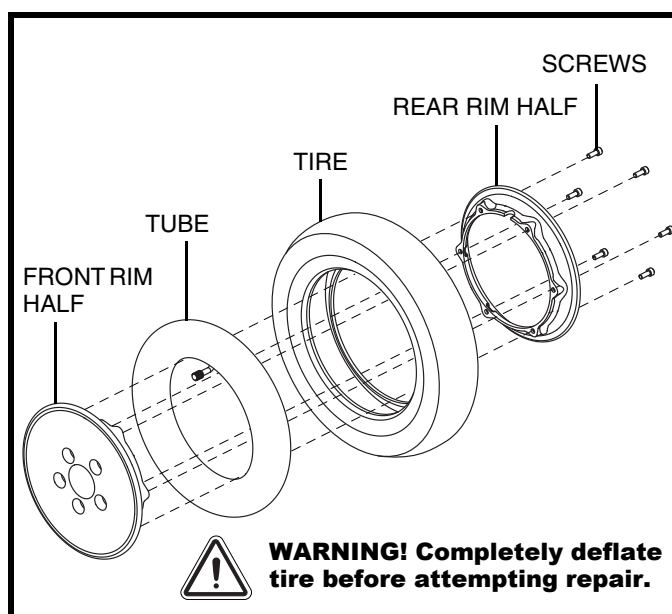

Figure 30. Drive Wheel Assembly
6. Remove the screws and separate the rim halves. See figure 30.
7. Remove the old tube from the pneumatic tire and replace it with a new tube or replace the entire assembly if it is a solid tire. See figure 30.